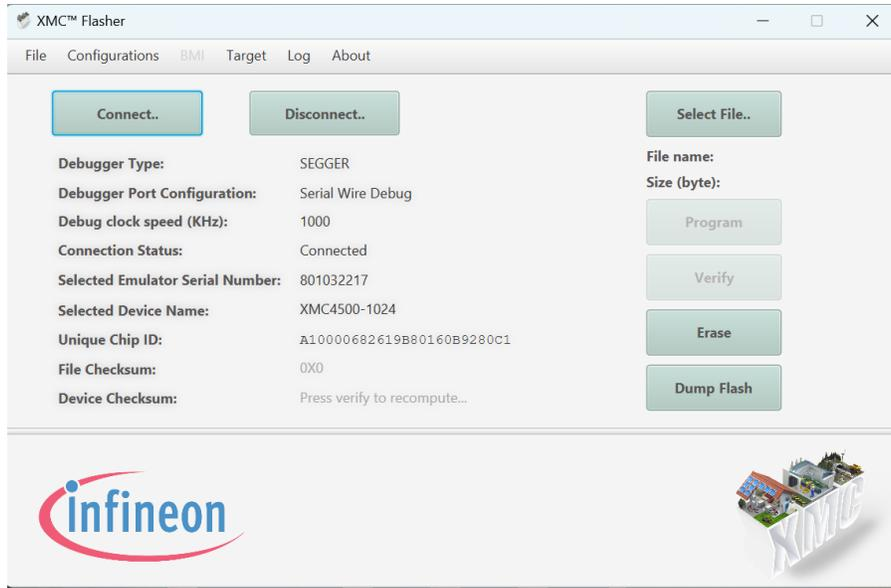

Figure 10. XMCFlasher Connected State Window
Step 7. The window will change and show the Connected Status as Connected (Figure 10). Additional information about the device will be shown including the Unique Chip ID. The Unique Chip ID will be a long line of random numbers and letters. If the Unique Chip ID shows 00, the XMCFlasher is not connected to the sensor and will not program correctly. Check that the Segger is plugged in or reverse the connector cable on the Segger side which is not keyed.